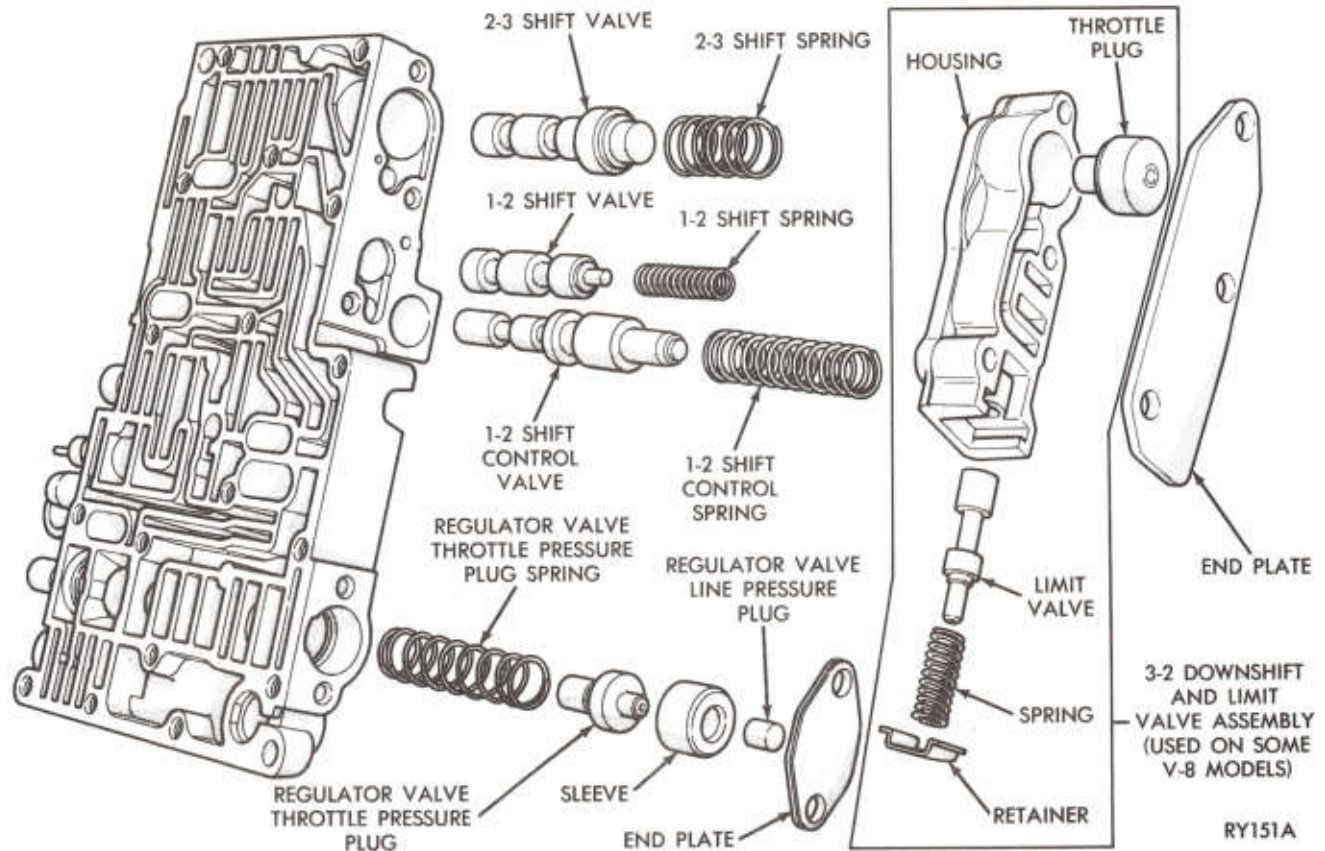

Fig. 7—Shift Valves and Pressure Regulator Valve Plugs
(1) Remove the line pressure regulator valve end plate (Fig. 7) and slide out the regulator valve sleeve, line pressure plug, throttle pressure plug, and spring.
(2) Remove the end plate and limit valve housing assembly.
(3) Remove throttle plug from housing.
(4) Slide retainer from housing and remove limit valve and spring.
Shift Valves and Regulator Valve Pressure Sensing Plugs (Fig. 7)